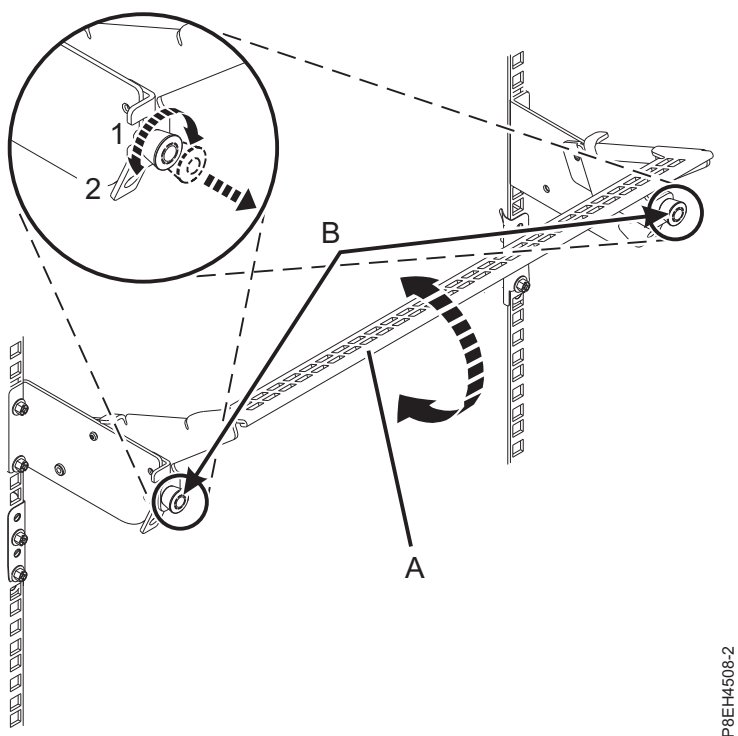

Figure 12. Placing the cable management bracket in the operating position
- a. Pull the quarter-turn fasteners (B) out and turn them to disengage them while moving the cable management bracket (A) to its lower position (2). See Figure 12 on page 14.
- b. Turn the quarter-turn fasteners (B) to engage and lock the bracket into position.